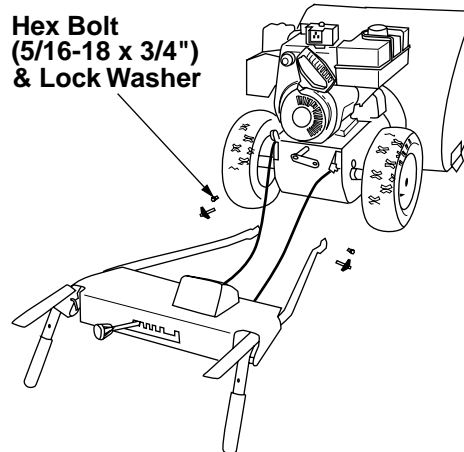

Figure 7
7. Lay handle assembly behind snow thrower. See Figure 7.
8. Insert a hex bolt and lock washer through the lower hole on the bottom of the handle. See Figure 7.